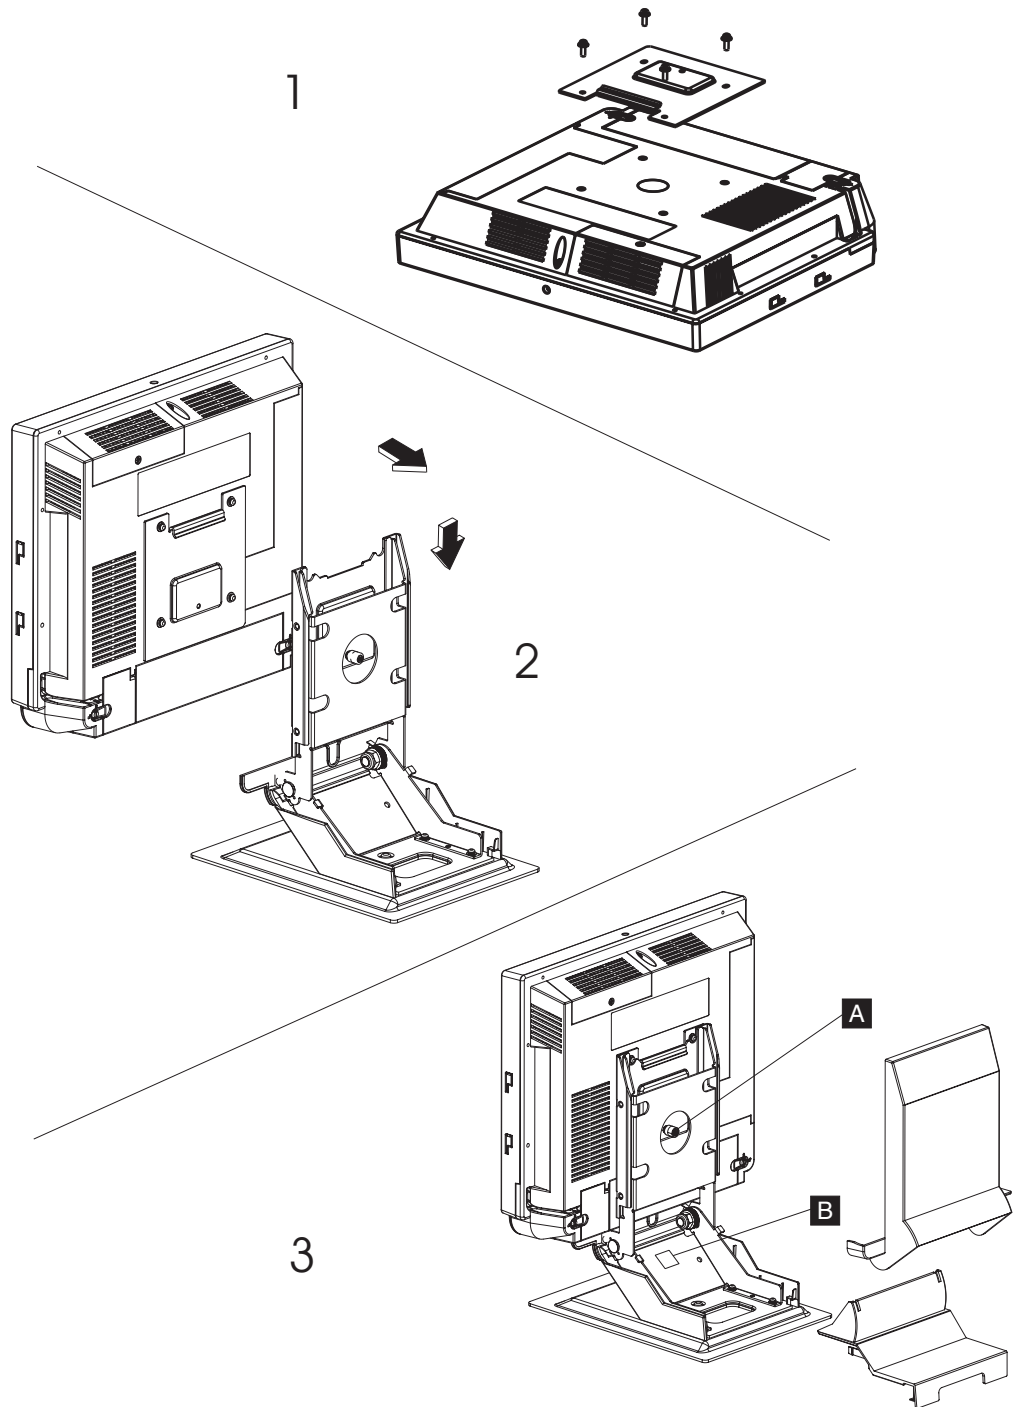

Figure 14. Installing tabletop mount
1. Attach the VESA adapter plate to the unit with the four screws that are provided. See picture 1 in Figure 14.
2. Tilt the upper portion of the mount so that it is 90 degrees (perpendicular) to the base of the mount. See picture 2 in Figure 14
8. Hook the unit onto the tabletop mount and tighten the mount thumb screw (**A** in picture 3 in Figure 14 on page 22) to secure the unit to the mount.
10. Retain the AC adapter cable with the cable harness located on the tabletop mount (**B** in Figure 14 on page 22).